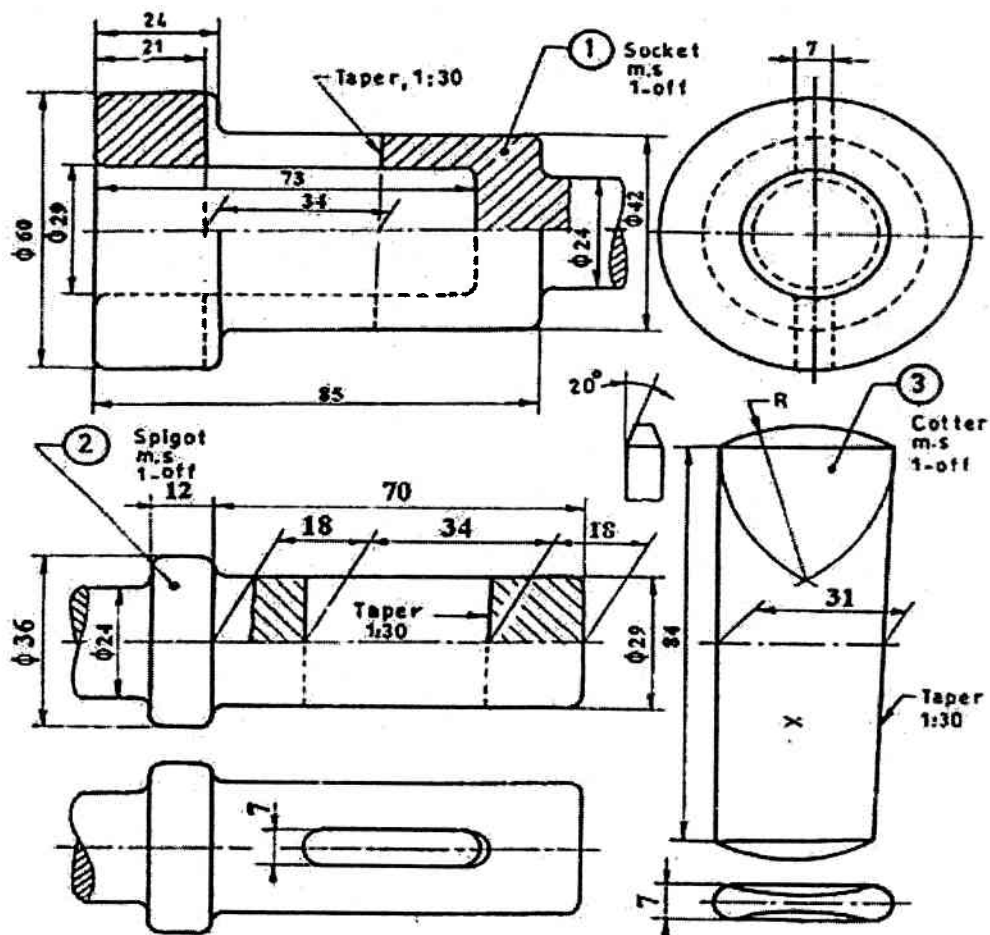

Fig. 1 Socket and Spigot Joint
1. Figure 1 shows the components of Socket and Spigot joint. Assemble the parts and draw the front view in section and the side view.